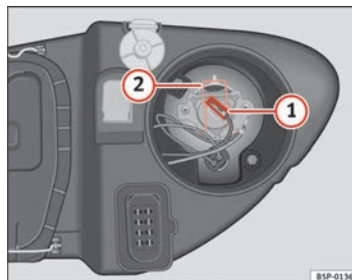

Fig. 189 Main beam headlights
- Remove the connector ⇒ fig. 189 ① from the bulb.
- Press the spring ⇒ fig. 189 ② inwards and to the right.